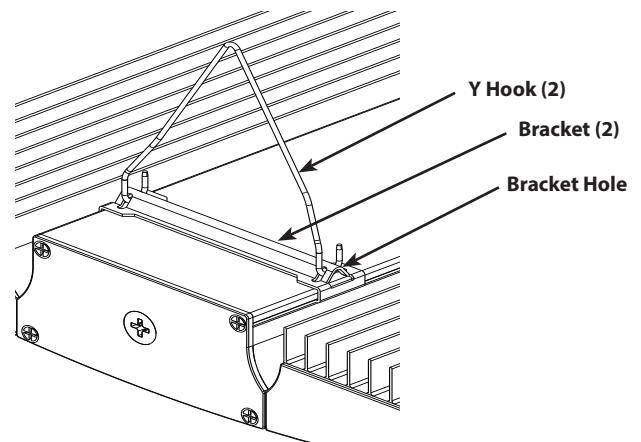
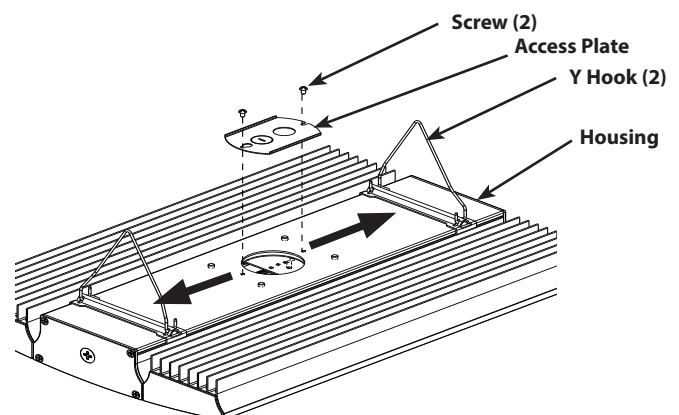

Fig. 1
Fig. 2
1. **Y Hooks (2)** are provided for chain mounting. Secure **Y Hooks** through **Bracket Hole** at back of **Housing** as in **Fig. 1**.
2. Connect to two (2) equal lengths of chain (by others) and/or appropriate hardware (by others) suitable for mounting surface, to suspend **Housing** from **Y Hooks**.
3. Fixture mounting height and spacing should be determined by application requirements. Use chain suitable to support four (4) times the weight of the fixture (24 lbs).
4. **Brackets (2)** should be positioned near end of **Housing** as shown in **Fig.2**. Secure **Housing** to ceiling mounting surface and adjust **Brackets** evenly to ensure **Housing** is stabilized.
6. Secure **Access Plate** and tighten **Screws (2)**.